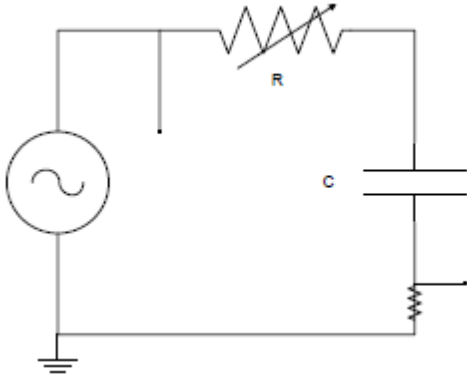

Figure 1. The experimental RC circuit. $C=10\ \mu\text{F}$.
1. Construct the circuit of Figure 1. Set the signal generator to the sinusoidal mode. Set the frequency to 60 Hz and the amplitude to 10 V.